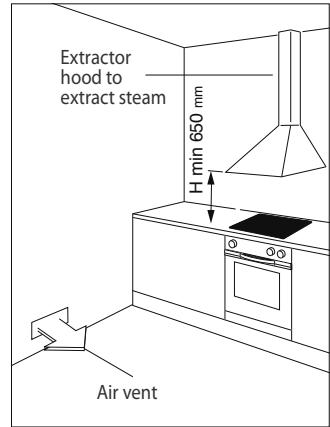

Fig. 2a Ventilation with an extractor hood
- The vents must be positioned close to the floor, preferably on the opposite side to the gas burners of your cooktop (as shown in Figs. 2a and 2b). The vents must be designed in such a way that they cannot be obstructed either from the inside or the outside.
- To eliminate cooking and gas fumes, extractor hoods ducted directly to the outside must be installed (Fig. 2a).